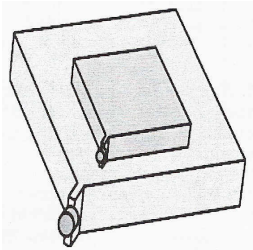

Fig. 6
3. On each side of the air bag foundation, additional safety supports are to be built extending to the maximum possible height (Fig. 6). This reduces the height, from which the object of lifting would fall in case of an eventual damage to the air bag system..
5. Inflate the air bag to achieve the required height, then add safety supports as high as possible (Fig. 6). Provided that sufficient staff is available, the safety supports are recommended to be built simultaneously with the air bag inflation.